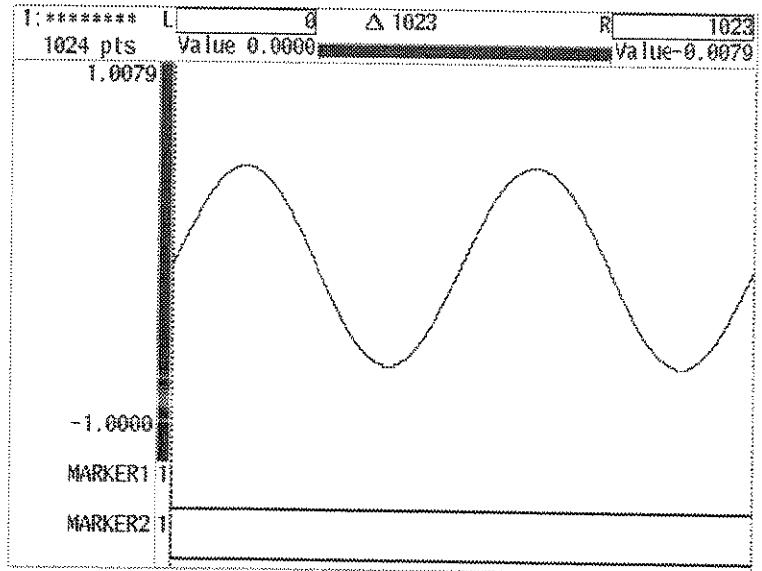

Figure 4A-52: Example of Waveform Before Arithmetic Operations
- Step 1:** Create the waveform to be operated on with the other waveform file data. Figure 4A-52 shows the example of waveform before the arithmetic operations.